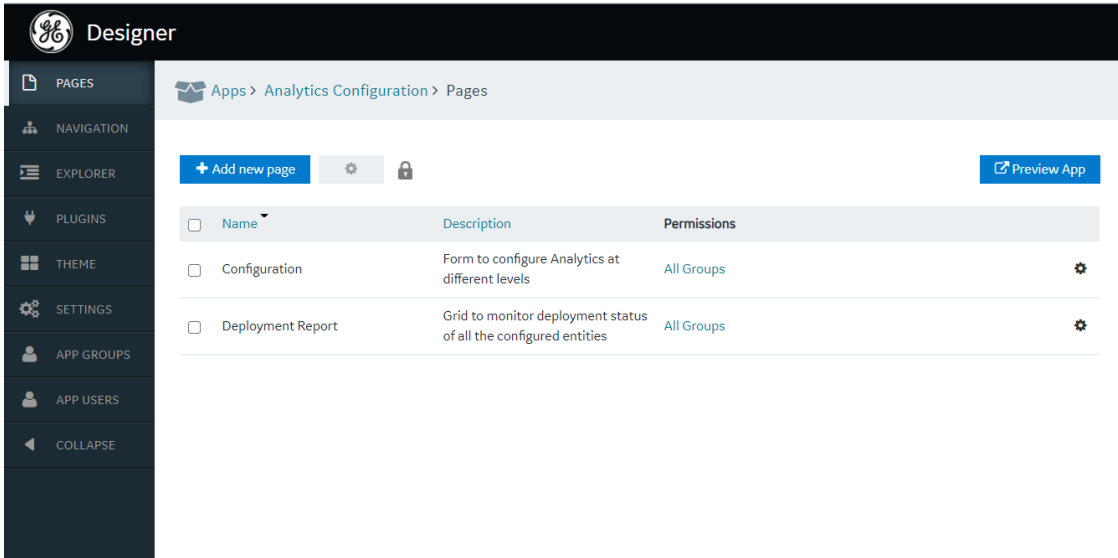

Fig 27
- To manage permissions to a specific set of pages, select the permissions column for that page (Fig 27) and assign 'All Groups' or 'Selected Groups' and select set of groups from the drop-down and click on Save Permission.